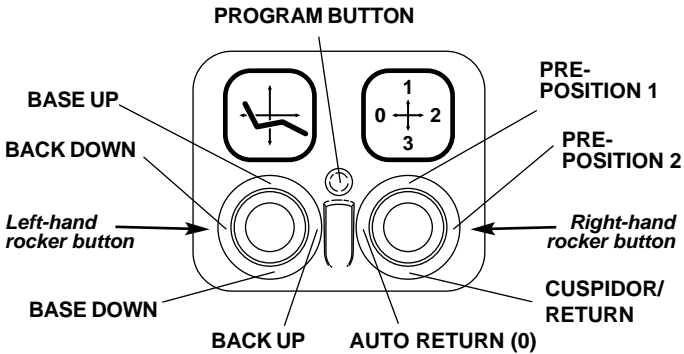
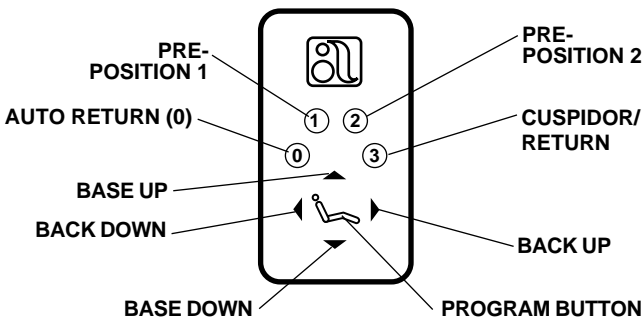

Figure 2. 8-Function Footswitch
Figure 2a. Chair Touch Pad
The low voltage microcomputer-based electronics module in your chair is capable of storing your preferred operating and patient entry/exit positions. Chair functions are controlled by the 8-Function Footswitch or optional touch pad (see Figure 2 or 2a on page 3).
The 8-Function Footswitch (see Figure 2) or the optional Chair Touch Pad (see Figure 2a) gives you both manual and programmed control of chair positioning. The left-hand rocker button on the footswitch manually controls chair back/toeboard tilt and chair lift. The right-hand rocker button is for Auto Return and programmed chair positions.
To change a Pre-Position locate the program button on the footswitch or touch pad (see *Figures 2 or 2a on page 3*).
To send the chair to a preset entry/exit position, or Auto Return, momentarily move the right-hand rocker button to the 9 o'clock (0) position, or press the "0" button on the touch pad (see *Figure 2 or 2a on page 3*).
If you want to change the preset entry/exit position, first locate the program button on the footswitch or touch pad (see *Figure 2 on page 3*).